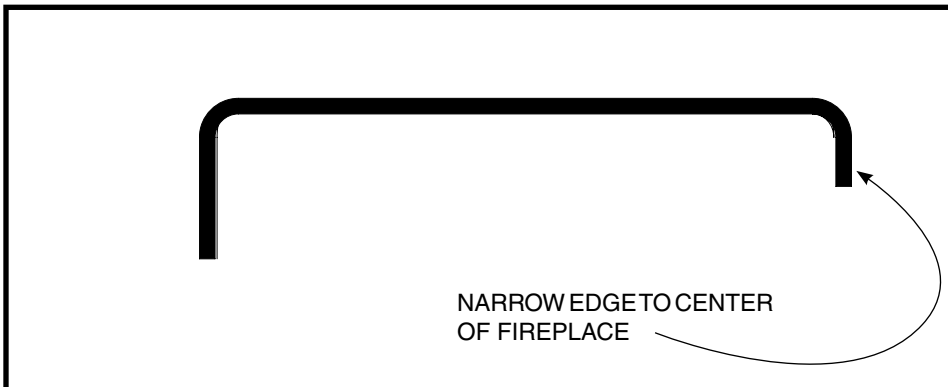

Figure 63: Porcelain strip profile.
13. Install porcelain cover strips that are supplied with the panel set (narrow edge should face the center of the fireplace (Figure 62 and Figure 63).